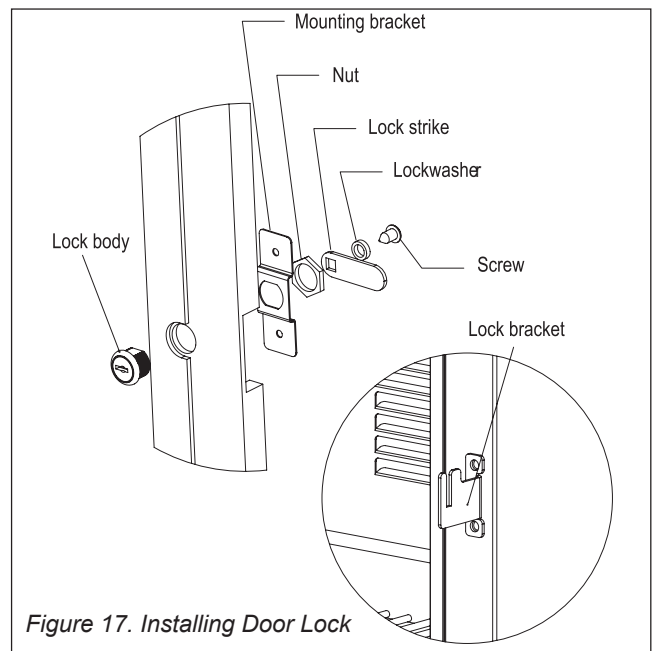

Figure 17. Installing Door Lock
1. See Figure 17 below. Attach mounting bracket to wood overlay.